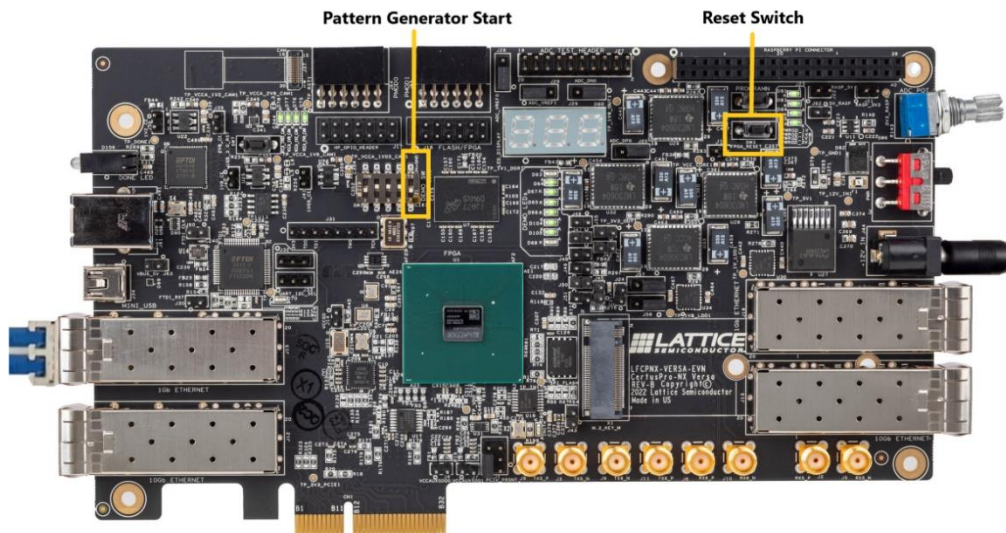

Figure 7.11. Toggle Switch 5 in SW1 to Initiate Pattern Generation for CertusPro-NX Versa Board
- Toggle switch 5 in SW1 to start the pattern generator (highlighted in Figure 7.11.)